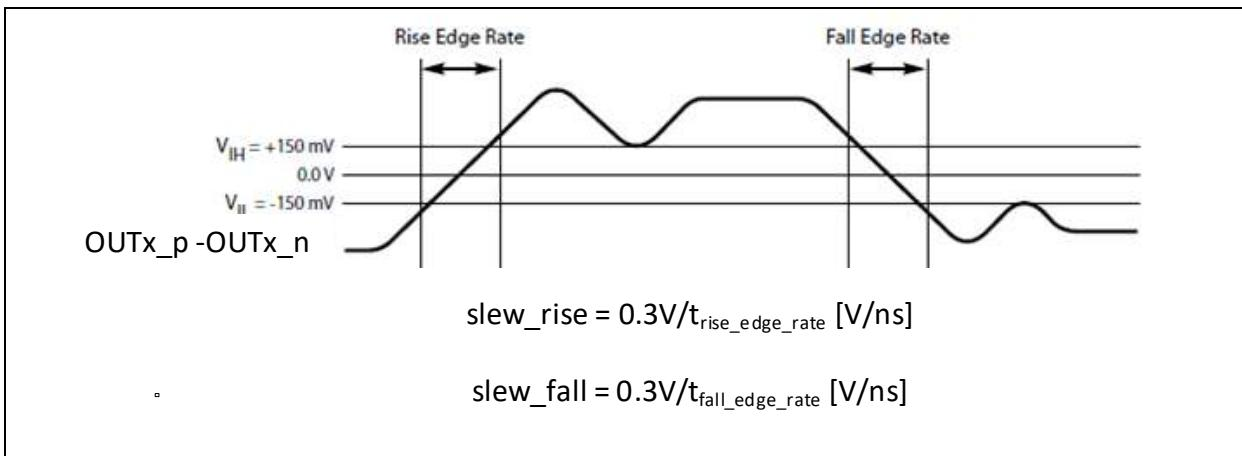

Figure 21. Differential Measurement Points for Rise and Fall Time
(0) Output differential swing is calculated as V_{SW} = V_{OH}-V_{OL}. It should not be confused with V_{SW} = 2 * (V_{OH}-V_{OL}) used in some datasheets
(1) Measurement taken from single ended waveform
(2) Measurement taken from differential waveform.
(3) Measured from -150 mV to +150 mV on the differential waveform (derived from CK minus CK#) The signal must be monotonic through the measurement region for rise and fall time. The 300 mV measurement window is centered on the differential zero crossing. See Figure 21